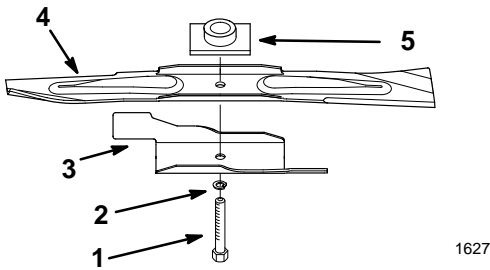

Figure 19
2. Remove the blade bolt, lockwasher, blade accelerator and blade (Fig. 19).
1. Position the blade onto the spindle and blade driver, with the curved blade tips pointing toward the mower and the blade driver nesting in the recess of the blade (Fig. 19).
2. Install the accelerator, lock washer, and blade bolt (Fig. 19).